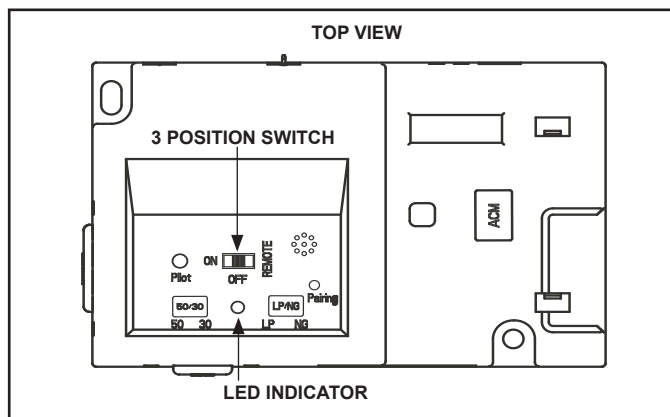

Figure 3.4. IFT-ECM
1. The Electronic Control Module (IFT-ECM) has a three-position ON/OFF/REMOTE selector switch that must be set for proper operation. See Figure 3.4. When changing switch positions, it is important to pause in each position for 1-2 seconds.